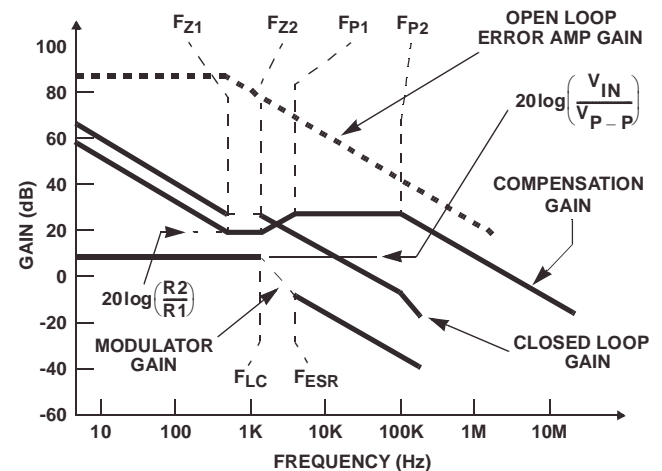

FIGURE 9. ASYMPTOTIC BODE PLOT OF CONVERTER GAIN
Figure 9 shows an asymptotic plot of the DC-DC converter's gain vs. frequency. The actual Modulator Gain has a high gain peak dependent on the quality factor (Q) of the output filter, which is not shown in Figure 9. Using the above guidelines should yield a Compensation Gain similar to the curve plotted. The open loop error amplifier gain bounds the compensation gain. Check the compensation gain at F_{P2} with the capabilities of the error amplifier. The Closed Loop Gain is constructed on the log-log graph of Figure 9 by adding the Modulator Gain (in dB) to the Compensation Gain (in dB). This is equivalent to multiplying the modulator transfer function to the compensation transfer function and plotting the gain.